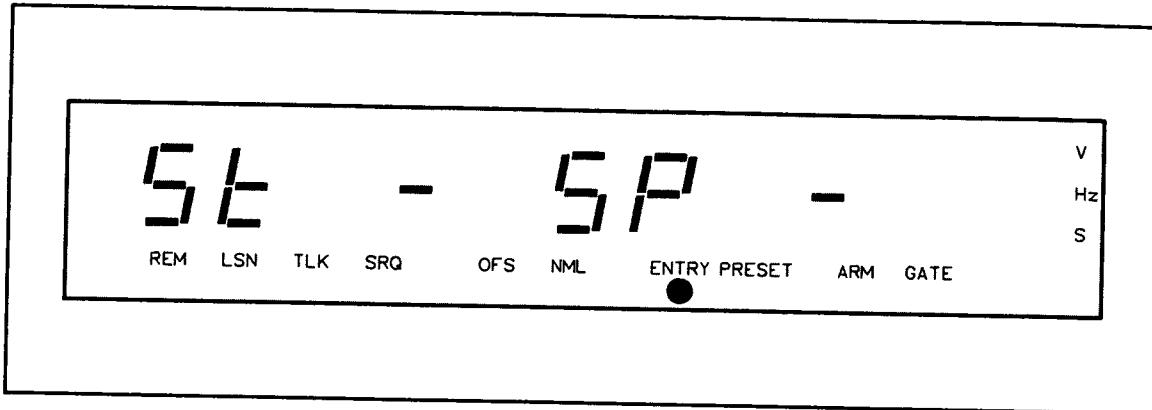
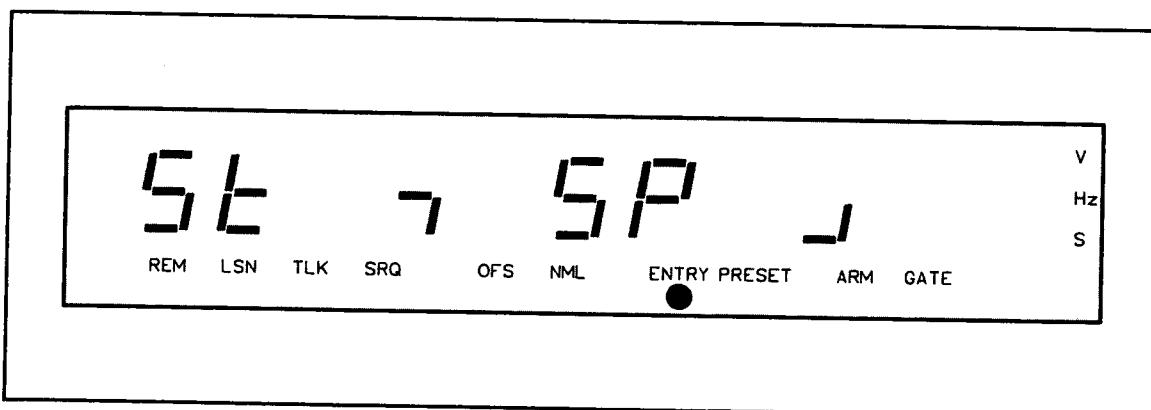

Figure 3-34. EXTERNAL ARM SELECT Entry Mode Display, Arming Off
Figure 3-35. EXTERNAL ARM SELECT Display, Arming States Selected
3-196. External arming can be used to specify the start and/or stop of a measurement, by a signal that is not directly involved in the measurement. When external arming is enabled, a signal must be connected to the ARM input connector to arm the gate to open and/or close. Pressing the EXT ARM SELECT key displays the arming status, shown in Figure 3-34, and allows the START ARM (open gate) and/or STOP ARM (close gate) states to be changed.
3-197. The arming status is represented as "St" (START ARM) and "SP" (STOP ARM). The states are defined by "—" (arming off), shown in Figure 3-34; and "¬" (arming set on negative slope), and "¬" (arming set on positive slope) as shown Figure 3-35 slope). The channel A SLOPE key controls the START ARM, and the channel B SLOPE key controls the STOP ARM.
2. The counter displays, “St” for start arm, “SP” for stop arm, and the current start/stop arm states (see *Figure 3-35*).
3. The ENTRY light flashes, indicating the arming states may be changed (see *Figure 3-35*).
*Figure 3-35* shows the EXT ARM SELECT entry mode display, with the START ARM set negative, and the STOP ARM set positive.